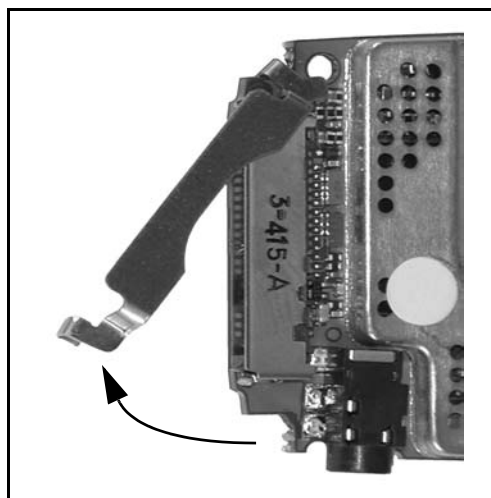

Figure 7-20.
1. Grasp one end of Accessory Connector Clip and swing out like a door until fully separated (see Figure 7-20).